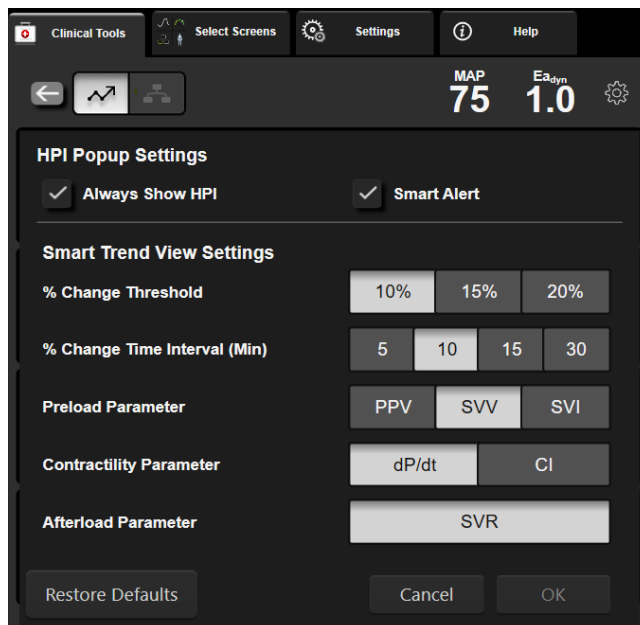

Figure 14-9: HPI secondary screen - smart trend view settings
3. Disable the **Always Display HPI** option button. See Figure 14-9 on page 266.